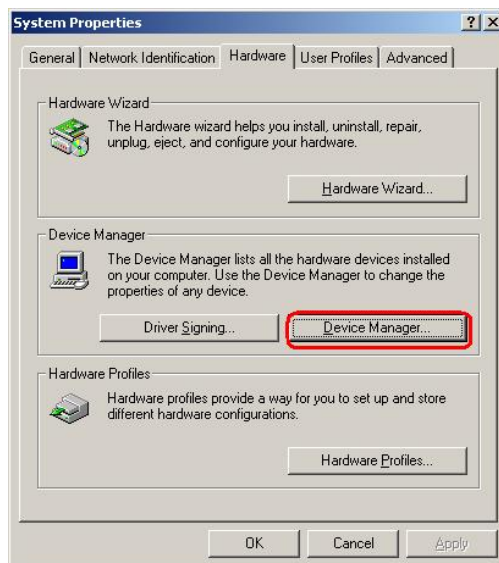

Figure 6-14: Double Click the Device Manager Tab
Step 3: Click the **Hardware Tab**, then double click **Device Manager** (Figure 6-14).